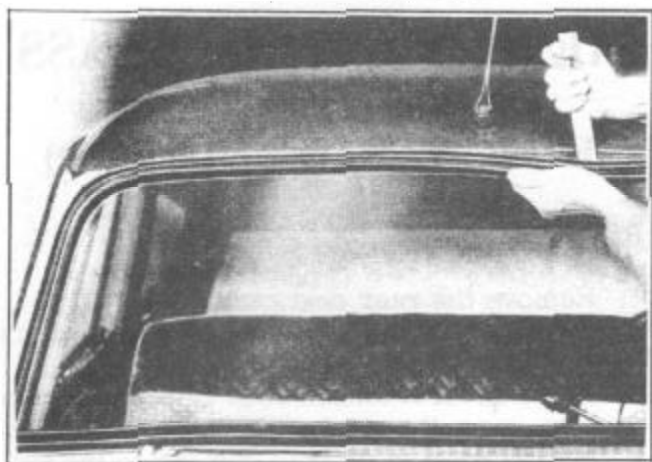

FIGURE 53
1. With a tapered tool, open up the groove of the weatherstrip and press weatherstrip over windshield opening pinchweld, Figure 53.